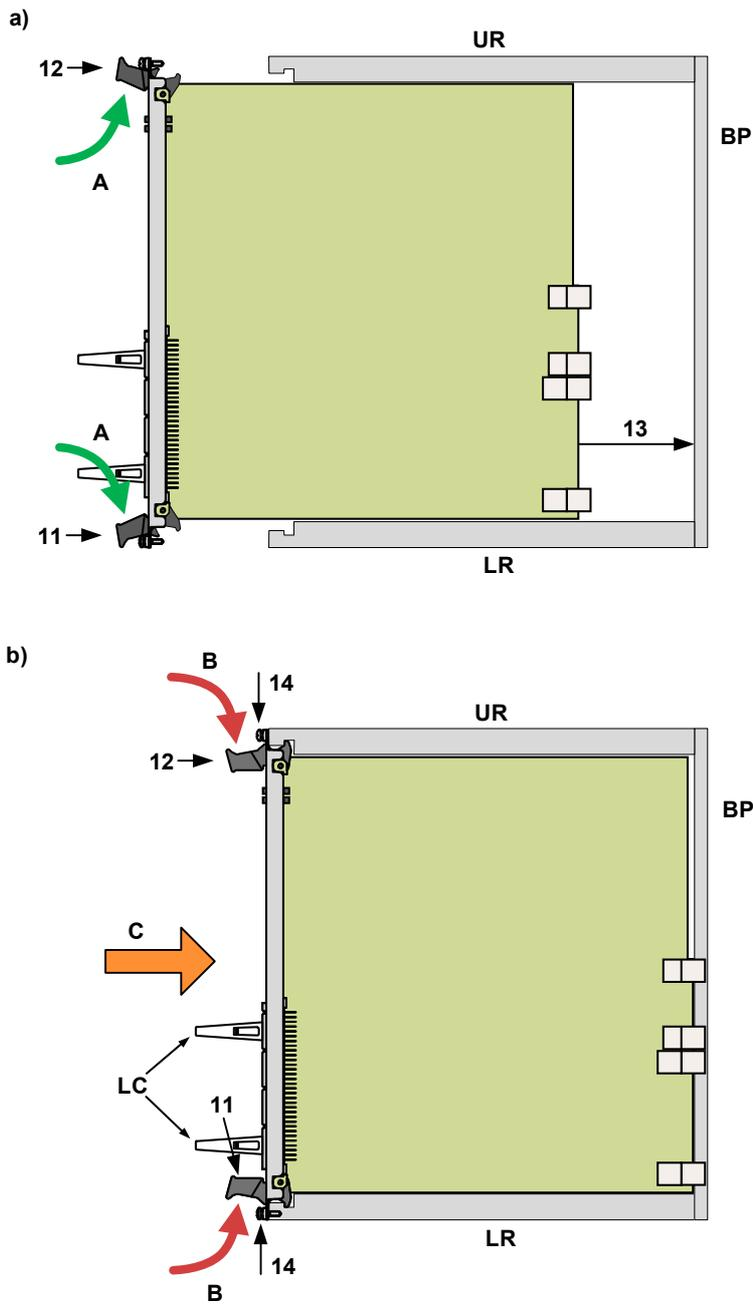

Figure 53: Insertion of units in the subrack
Legend to Figure 53:
Check for latching clips (refer to positions (LC) in Figure 53). If no clips are fitted, insert clips to the positions shown in Figure 53. The latching clips are packed with the original cables from the manufacturer or provided separately.